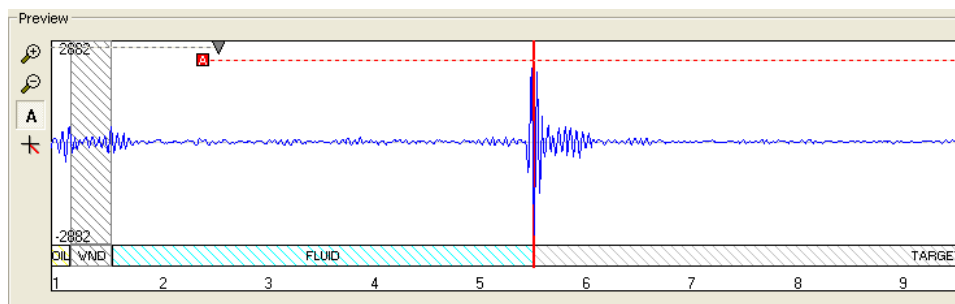

Figure 3-10 Start gate set in automatic mode
- **Automatic:** the system will automatically detect and record the highest amplitude occurring after the Acoustic Window Gate and the upper limit of the Echo Gate (Figure 3-10). Automatic is the recommended setting.